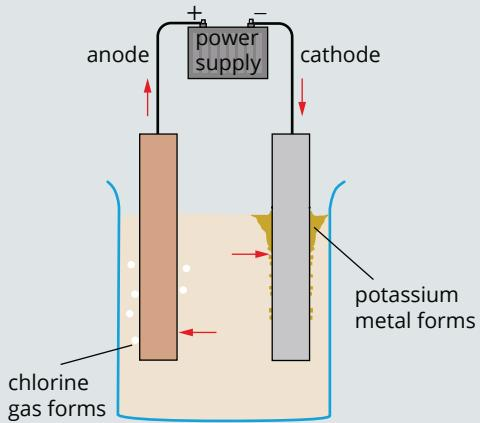

FIGURE 9.4.1 Electrochemical cell for producing potassium metal.
- Two electrolytic cells were set up for the electrolysis of aqueous copper(II) sulfate. One cell contained copper electrodes and the other contained platinum electrodes. Determine the reactions that would occur at the electrodes of both cells.
- An electrochemical cell (shown in Figure 9.4.1) is set up to produce potassium metal. Label the parts of the cell using the following options (options may be used more than once): Cl^- , molten potassium chloride, platinum, K^+ .